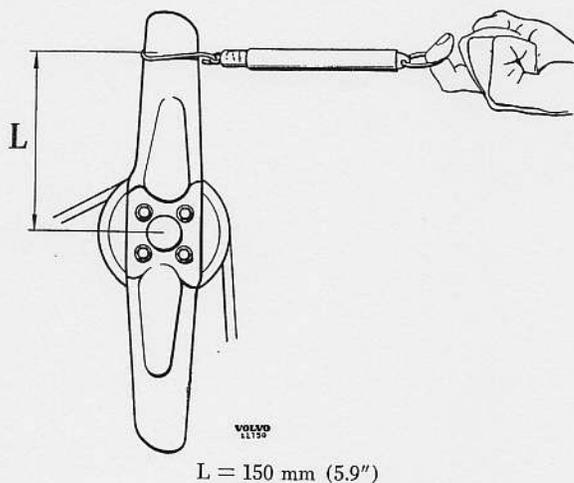

Fig. 8. Checking belt tension.
2. Attach a spring balance as shown in Fig. 8 and pull on this. When the belt is correctly tensioned the belt pulley should begin to slip round at a pull of 5.5—6.5 kg. (12.1—14.3 lb.).